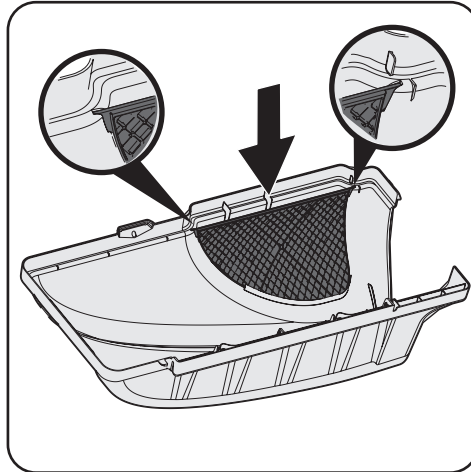

Figure 4-10
4. **If not already installed by the factory,** install the bagger screen into the bagger cover by first inserting one end into the corresponding cutout mounting hole. Make sure to feed the screen under the lip, as in Figure 4-10.